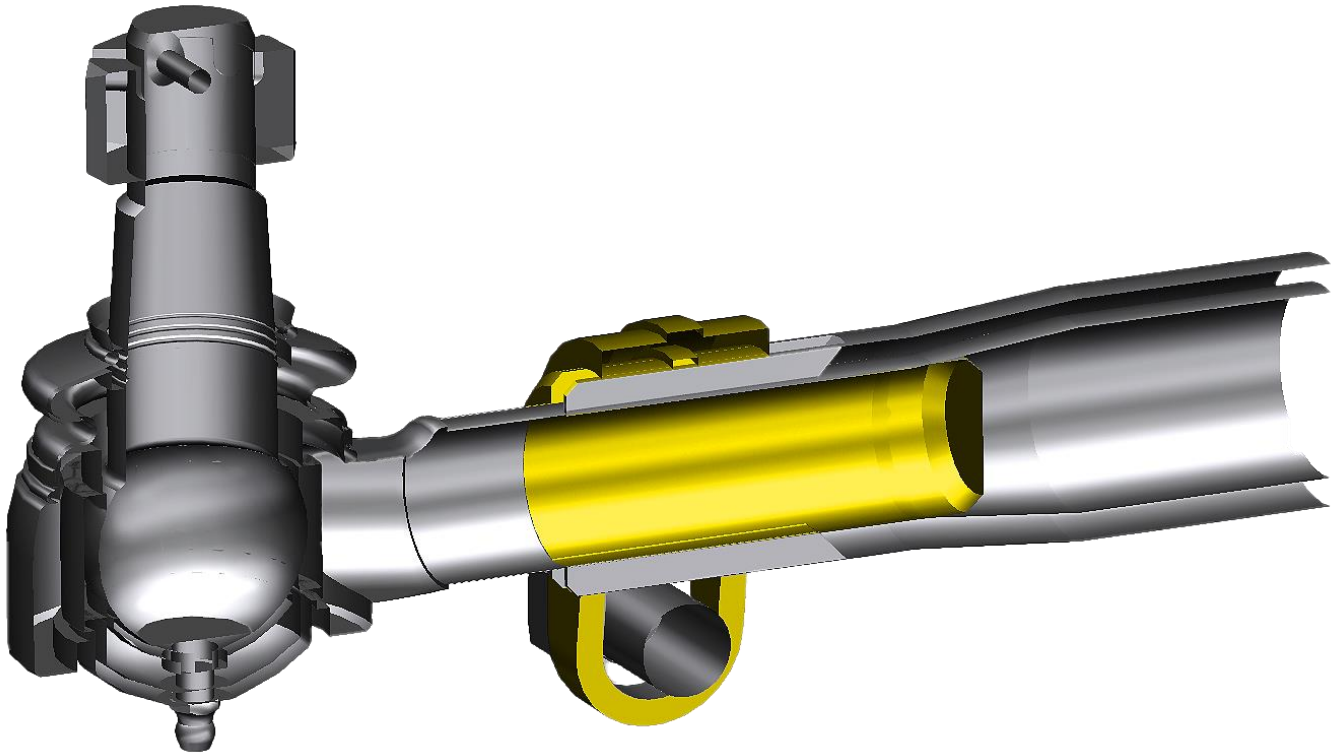

Fig. 5, Clamp rib should engage onto detents to align clamp position
- b. Ensure clamp locating rib remains centered over the tie rod cross-tube detents. See Fig 5. Failure to engage the clamp centering rib with tie rod cross-tube may result in a loose tie rod end despite reaching appropriate torque on the locknut/bolt assembly.